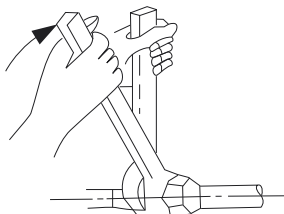

Fig. 34 – Tighten Flare Nut
6. Tighten the flare nut and finish the installation using two wrenches as shown in Fig. 34.